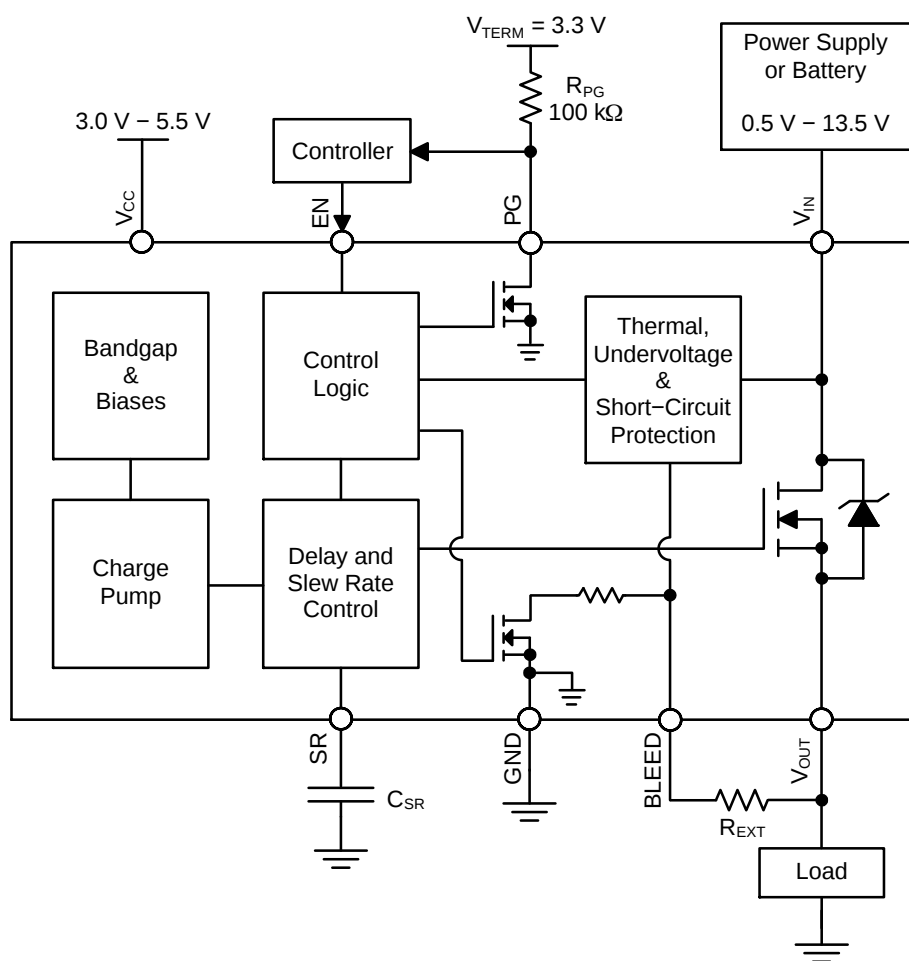

Figure 30. Typical Application Diagram – Load Switch
It is required that the BLEED pin be connected to V_{OUT} either directly (as shown in Figure 31) or through an external resistor, R_{EXT} (as shown in Figure 30). R_{EXT} should not exceed 1 k Ω and can be used to increase the total bleed resistance.
The NCP45540 devices have a power good output (PG) that can be used to indicate when the gate of the MOSFET is fully charged. The PG pin is an active-high, open-drain output that requires an external pull up resistor, R_{PG} , greater than or equal to 1 k Ω to an external voltage source, V_{TERM} , compatible with input levels of other devices connected to this pin (as shown in Figures 30 and 31).
The slew rate can be decreased with an external capacitor added between the SR pin and ground (as shown in Figures 30 and 31). With an external capacitor present, the slew rate can be determined by the following equation:
Once active, the circuitry monitors the difference in the voltage on the V_{IN} pin and the voltage on the BLEED pin. In order for the V_{OUT} voltage to be monitored through the BLEED pin, it is required that the BLEED pin be connected to V_{OUT} either directly (as shown in Figure 31) or through a resistor, R_{EXT} (as shown in Figure 30), which should not exceed 1 k Ω . With the BLEED pin connected to V_{OUT} , the short-circuit protection is able to monitor the voltage drop across the MOSFET.